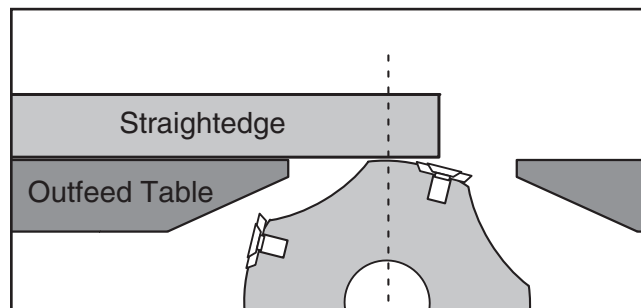

Figure 49. Adjusting outfeed table even with cutterhead body.
4. Rotate the cutterhead pulley so you can access the cutterhead body with the straightedge between the inserts, as shown in **Figure 49**.